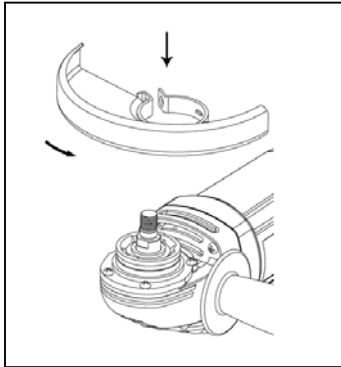

Figure 1
- 1) The auxiliary handle (1) can be screwed to the left or the right of Gear Box. Select the position which gives the most comfortable and safe use.
- 2) Fitting the grinding guard: (See figure 1 and 2)